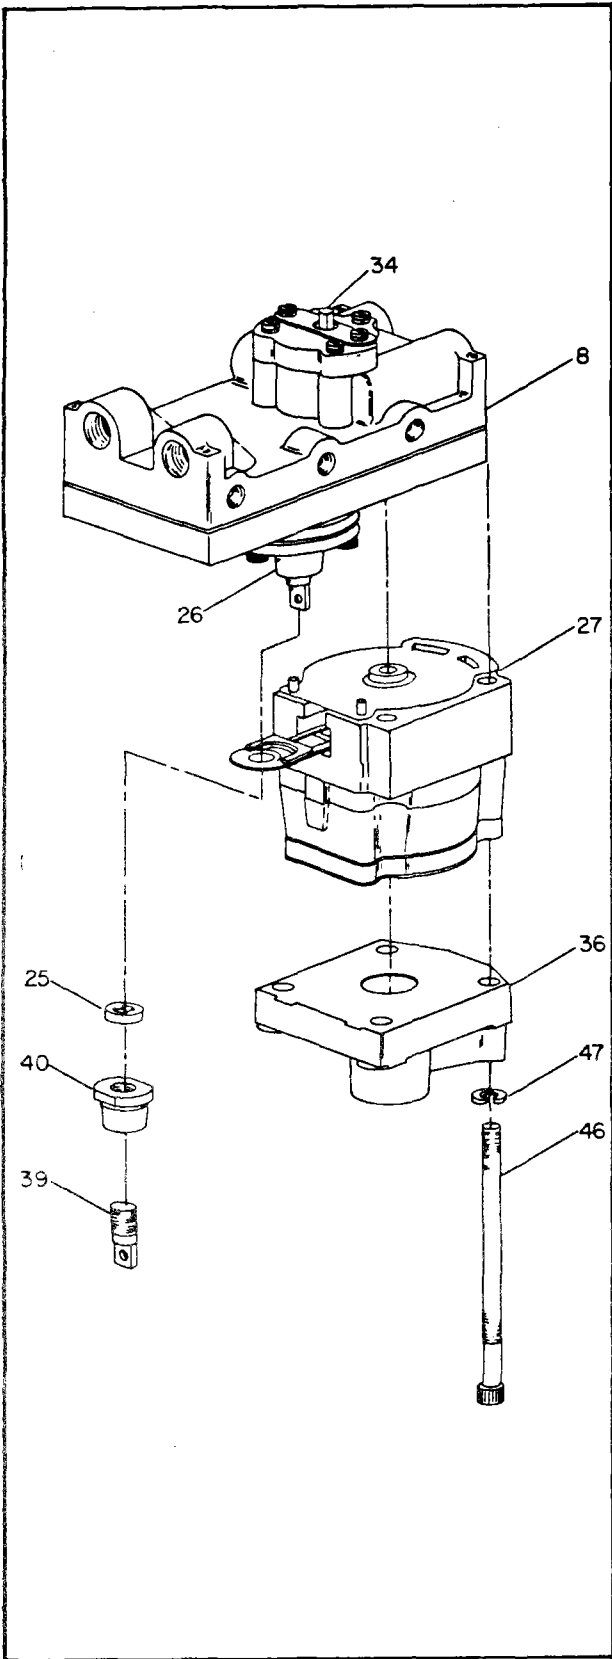

FIGURE 6 - Replacing Relay Assembly
5. To remove signal nut (40), place a 9/16-inch thin head or tappet, open end wrench on hex of signal diaphragm assembly (26) guide to secure guide in position and prevent rotation (Figure 6). With guide held firmly, place a 3/4-inch open end wrench on flats of signal nut (40). Remove signal nut and spring retainer (39) from threaded section of guide.